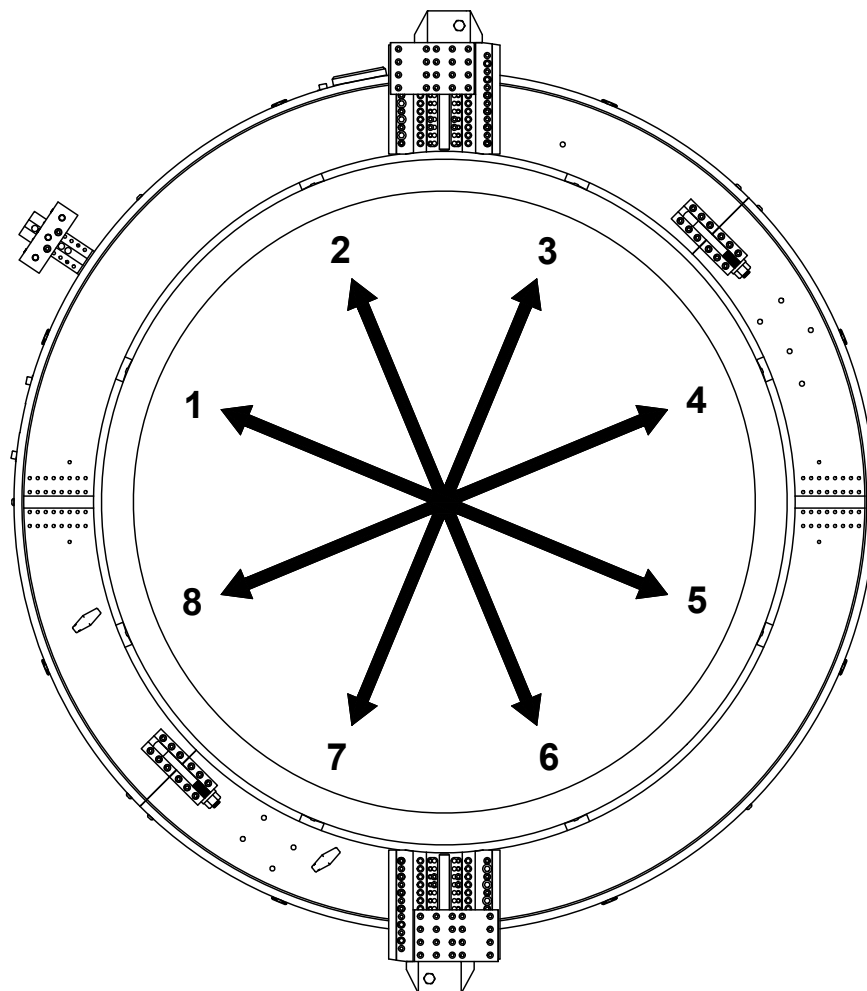

Figure 2-6 – Square and Center Clamshell
6. Square the clamshell to the workpiece. Place a square against the back face of the clamshell and along the length of the workpiece. If a horizontal setup, ensure a locator is at the 12 o'clock position. Adjust locators 1, 5 and 3, 7 until the clamshell is square to the workpiece. Always make adjustments in a cross-pattern sequence. See Figure 2-6.
7. Measure the distance from the workpiece outside diameter to the clamshell inside diameter at locator positions 1, 5 and 3, 7. Adjust the locators so that they are at the same dimension, while maintaining squareness and a secure fit on the workpiece. Once centered based on 1,5 and 3,7: touch off and tighten 2,6 and 4,8. When the clamshell is centered and squared on the workpiece, tighten locators against the workpiece. For fine centering, attach a dial indicator to the tool slide and manually rotate it while measuring the workpiece (lock pins need to be removed). Make sure all locators are firmly tightened against the workpiece once centered. See Figure 2-6.